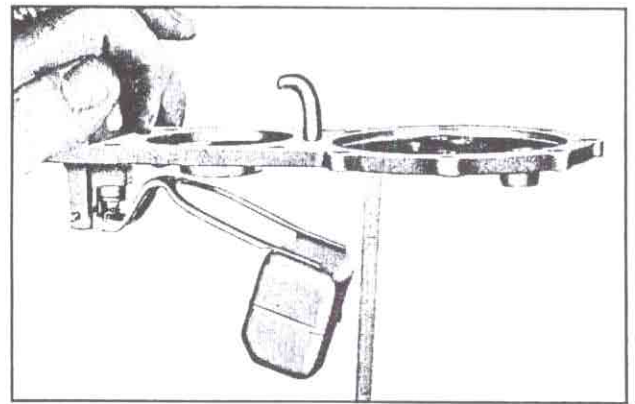

Fig. 145—Measuring Float Drop
b. **Float drop.** Holding the cover upright, measure the distance from the bottom of the cover to the lowest point on the float (fig. 145). Correctly adjusted, this distance would be $2 \frac{27}{32}$ ". Bend float tang to adjust, if necessary.